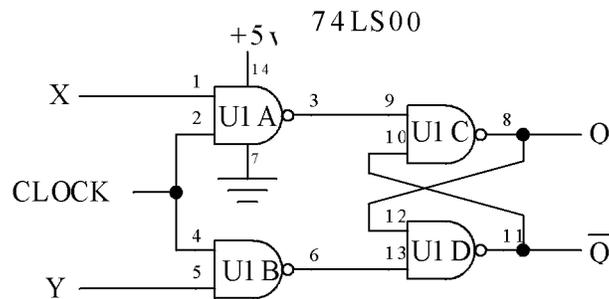

Fig.2. An engineering schematic.
Fig. 2 shows this same circuit redrawn as an engineering schematic, which also reflects the way the chip was actually wired.
- Use the "unit number" convention for assigning a unique package identifier to each chip. For example, the 74LS00 in fig. 2 is a single integrated circuit (also sometimes referred to as a "chip" or "package") containing four independent Nand gates, so the chip is assigned identifier U1 with its internal gates identified by letter suffixes: U1A, U1B ... etc. Many variations of this convention exist in industry. Only one of the common gates need show the power connections (in this case, pins 7 and 14). Power pins are often omitted as a further abstraction, but you should *always include them*, both as a reminder that chips need power to run, and to make your engineering schematics complete – especially when bypass capacitors are connected to them to suppress power supply noise (these are unwanted power voltage variations that can cause glitches and other problems).
- Electric potentials (voltages) should increase as you move from the bottom to the top of a page. For example, fig.2 shows the +5V supply upwards while the ground pin (0 volt reference) is downwards (where "ground" or the 0 Volt reference node really is).